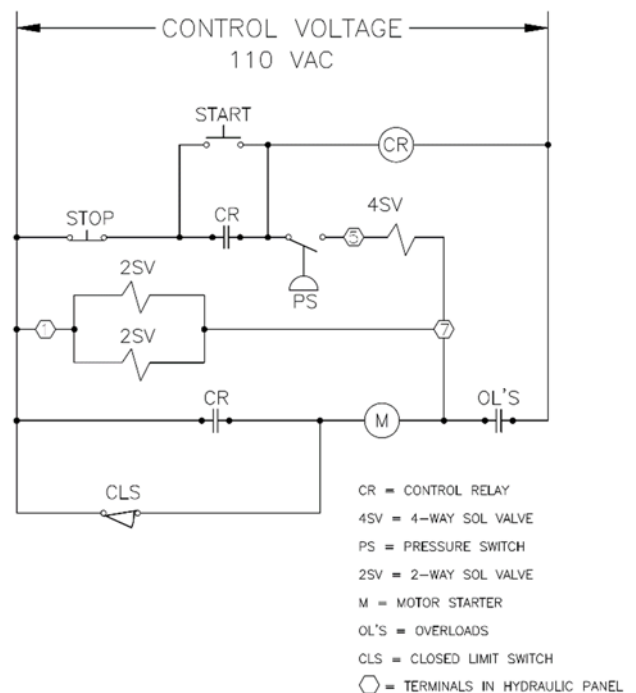

Figure 2. Typical Wiring Diagram
The hydraulic panel Supply (A) is connected to a source for pressurized air, hydraulic oil, or clean water (typically 80-100 psig). The Drain (B) connection is piped to an open drain or a return line. On the right side of the panel, the Close (C) and Open (D) connections are piped to the respective cylinder ports on the pump control valve. The opening and closing of the pump control valve is controlled by the hydraulic panel which is wired to the pump controls. A typical wiring method is shown in Figure 2.
There are four terminal connections in the internal cabinet junction box. Connect the ground terminal to a suitable ground wire per local codes. Connect terminal (5) to the 110V "Open" control signal from the pump motor control station. There are many different configurations possible, but a common one is shown in Figure 2. Connect Terminal (1) to the high side of the control voltage. Connect (7) to the low side of the control voltage or to the motor overload circuit as shown in Figure 2. Replace the cover on the terminal junction box.
As shown in Figure 2, a closed limit switch (CLS) located on the pump control valve is needed to tell signal the pump circuit that the valve is closed and it is safe to shut down the pump. The wiring from the valve limit switch assembly is connected directly to the pump control panel and not this hydraulic panel.